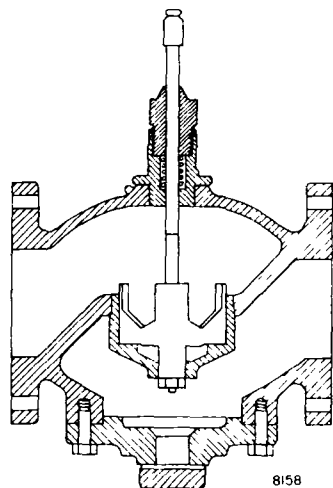

Fig 6 Cutaway of Typical V5011B and E Body
- d. Reverse Acting Flanged Valves (V5011B) - Unscrew the bonnet but the stem and plug assembly cannot be removed until the adapter flange at the bottom of the valve is removed by unscrewing the mounting screws (Fig 6).